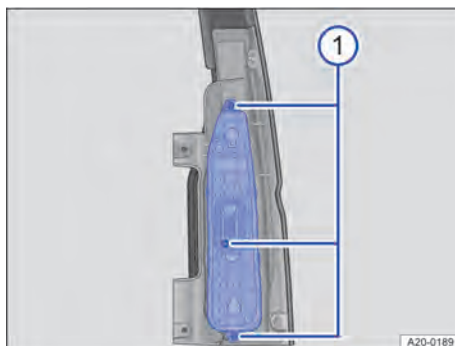

Fig. 177 On the tail lamp cluster: removing the bulb holder.
2. Undo securing screws with the screwdriver → Fig. 177 ①. Insert a suitable interchangeable blade if necessary.
3. Remove the bulb holder → Fig. 177.
1. Carefully insert the bulb holder into the tail lamp cluster → Fig. 177.
2. Screw the bulb holder onto the tail lamp cluster with the securing screws → Fig. 177 ①.